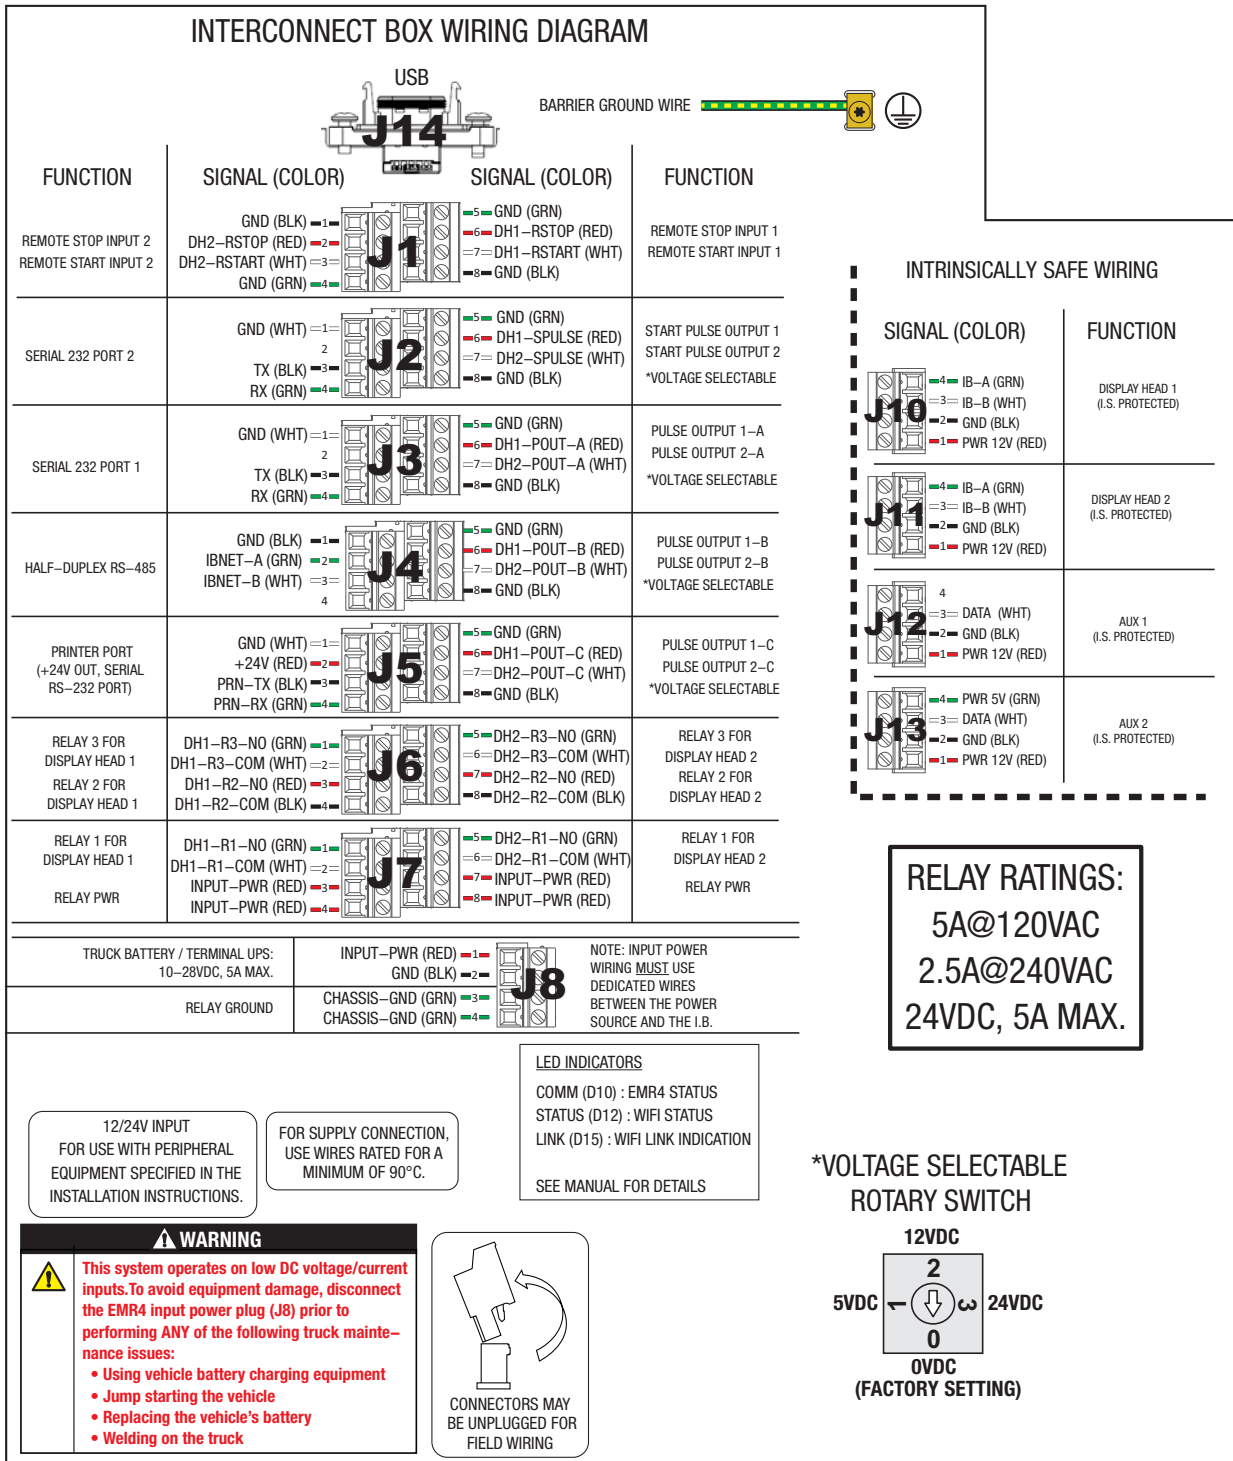

Figure 3. EMR4 IB Box Wiring Connections
2. Figure 3 shows IB Power Side terminal wiring connections. Remove hole plugs and use cord grips for all cables attaching to this terminal block.
4. Refer to Figure 3 for the IB intrinsically safe terminal wiring connections. Remove hole plugs and use cord grips for Display Head cable entries. The drain wire from the Display Head cable must be connected to the chassis ground clamp in the Interconnect Box.
On some vehicles, the battery minus terminal, BAT(-), may not be common with the chassis ground or the defined vehicle ground located in either the accessory panel or in the power distribution box. In this case, directly run the ground connection for Input Power at J8, Pin 2 (GND) terminal as shown in Figure 3, directly to the BAT(-) terminal connection point.